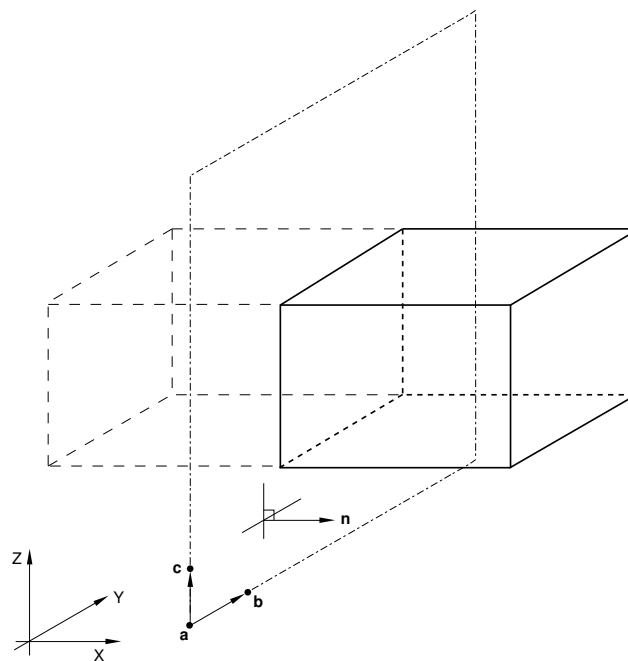

Figure 2: *REFLECTION, TYPE=PLANE option.
Set TYPE=PLANE to create a cavity composed of the cavity surface defined in the model and its reflection through a plane. See *Figure 2*. This option can be used only for three-dimensional cases.
1. X -coordinate of point a (see *Figure 2*).